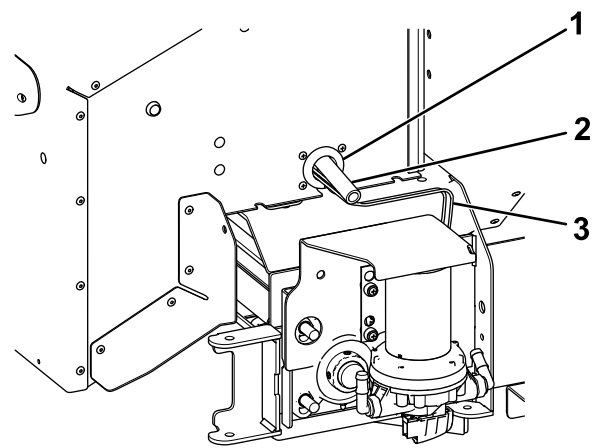

**Figure 23**
11. Secure the pump to the pump bracket using 4 bolts (#10 x 1-1/4 inches), washers, and nylon nuts (Figure 23).